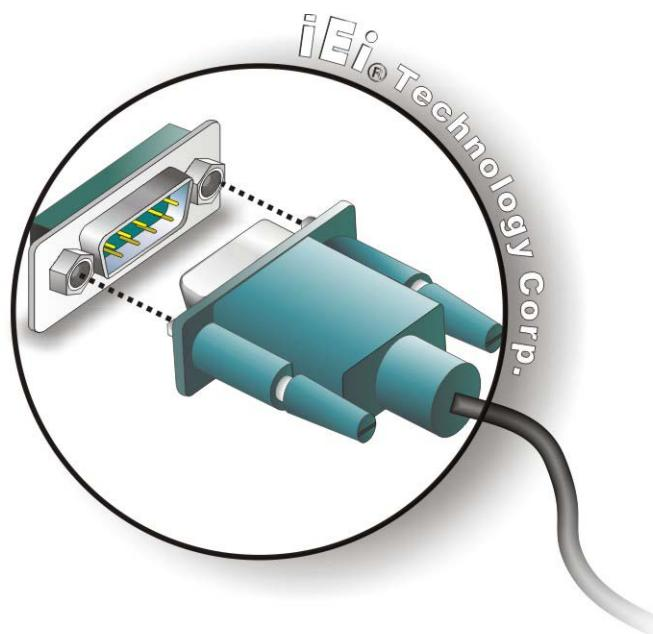

Figure 4-8: Serial Device Connector
Step 2: Insert the serial connector. Insert the DB-9 connector of a serial device into the DB-9 connector on the external peripheral interface. See **Figure 4-8**.